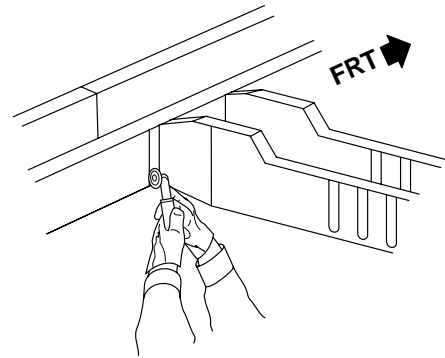

Fig. 4.34 — Cut the Rail for Sectioning
- 3 Cut the rear rail along the rearward flange of the crossbar (Fig. 4.34). Continue this cut around the rear rail.